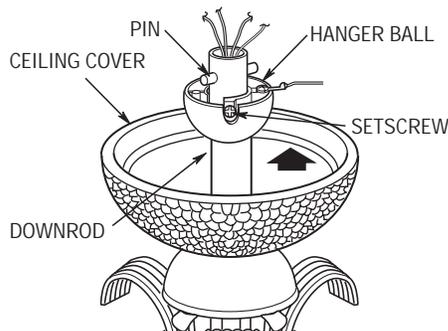

Figure 8
- 12. Place the ceiling cover over the downrod. Then reinstall the hanger ball (Figure 8) on the downrod as follows. Route the four 80" motor leads through the hanger ball and slide the hanger ball over the downrod. Position the pin through the two holes in the downrod and align the hanger ball so the pin is captured in the groove in the top of the hanger ball. Pull the hanger ball up